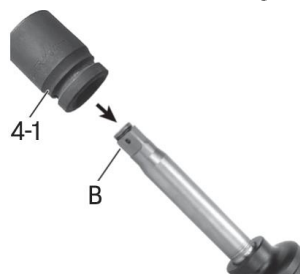

Fig. 4
2. Push and snap the socket (Fig. 4-1) onto the anvil (B) (Fig. 4).